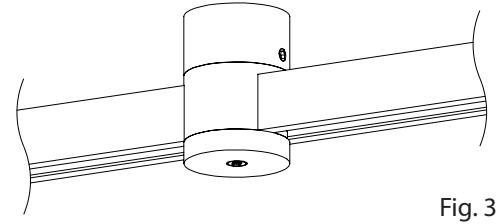

Fig. 3
3. Insert **Power Bar** into **Support**. Reattach **Support Cap** with **Flat Head Screw** (Fig. 3). **Note:** Ceiling Flush Mount Support (1XB02CE00x) is to be used in conjunction with Ceiling Mount Standard Power Feed (1XA08CE01x).